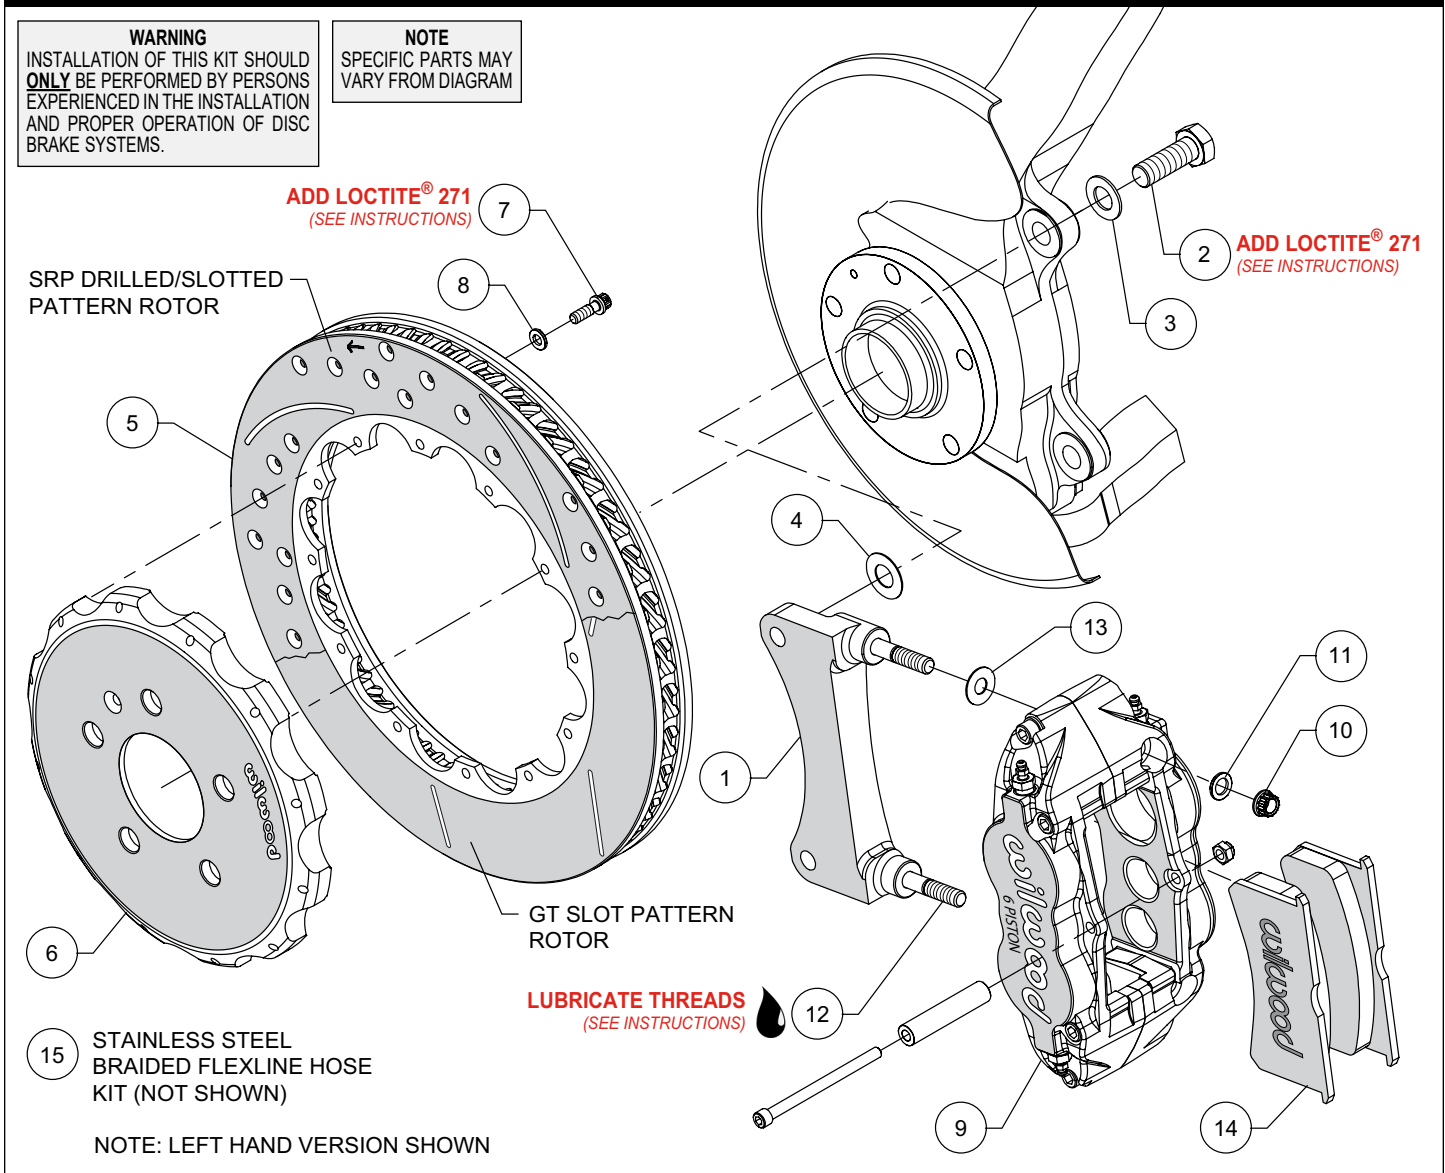
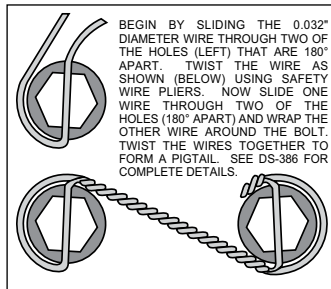

Figure 1. Typical Installation Configuration
Figure 3. Safety Wire Diagram
**Assembly Instructions** (numbers in parenthesis refer to the parts list and Figure 1 on the preceding pages):
- The caliper mount bracket (1) should initially be installed with clean, dry threads on the mounting bolts. Orient the bracket as shown in Figure 1 and Photo 1, and install using bolts (2) and washers (3). Initially place one .029 thick shim (4) on each bolt between the bracket and upright, Figure 1. Temporarily tighten the mounting bolts. **NOTE: The bracket must fit squarely against the mounting points on the upright.** Inspect for interference from casting irregularities, machining ridges, burrs, etc. Later, after the caliper alignment has been checked, the mount bolts will be secured using red *Loctite*® 271.
- Orient the rotor (5) and the hat (6) as shown in Figure 1 and Photo 2. Attach rotor to hat using bolts (7) and washers (8). Apply red *Loctite*® 271 to the bolt threads and torque to 155 **in-lb** using a criss-cross pattern. For an added measure of security, the bolts may be safety wired using standard 0.032 inch diameter stainless steel safety wire as shown in Figure 3. Please refer to Wilwood's data sheet DS-386 (available at [www.wilwood.com/Pdf/DataSheets/ds386.pdf](http://www.wilwood.com/Pdf/DataSheets/ds386.pdf)) for complete safety wire installation instructions.
- **NOTE: This kit contains distinct right and left hand calipers that must be mounted in a specific direction, as described below.** Lubricate the caliper mounting studs (12) with lightweight oil. Initially place one .035" thick shim (13) on each stud between the caliper and the bracket, as shown in Figure 1 and Photo 5. Mount the caliper (9) onto the bracket (1) using lock nuts (10) and washers (11), Figure 1. Ensure that the caliper is mounted so the largest pistons are at the rotor exit end of the caliper, in relation to the direction of rotor rotation. Temporarily tighten the lock nuts and view the rotor through the top opening of the caliper. The rotor should be centered in the caliper, Photo 6. If not, adjust by adding or subtracting shims (4) between the bracket and the upright. Always use the same amount of shims on each of the two mounting bolts. Once the caliper alignment is correct, remove the bracket mounting bolts (2) one at a time, apply red *Loctite*® 271 to the threads, and torque to 77 ft-lbs.